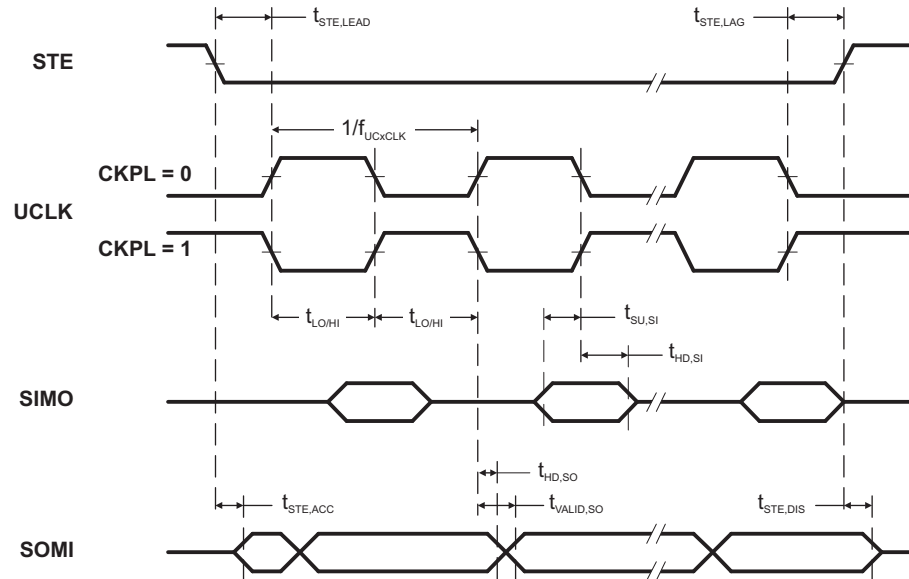
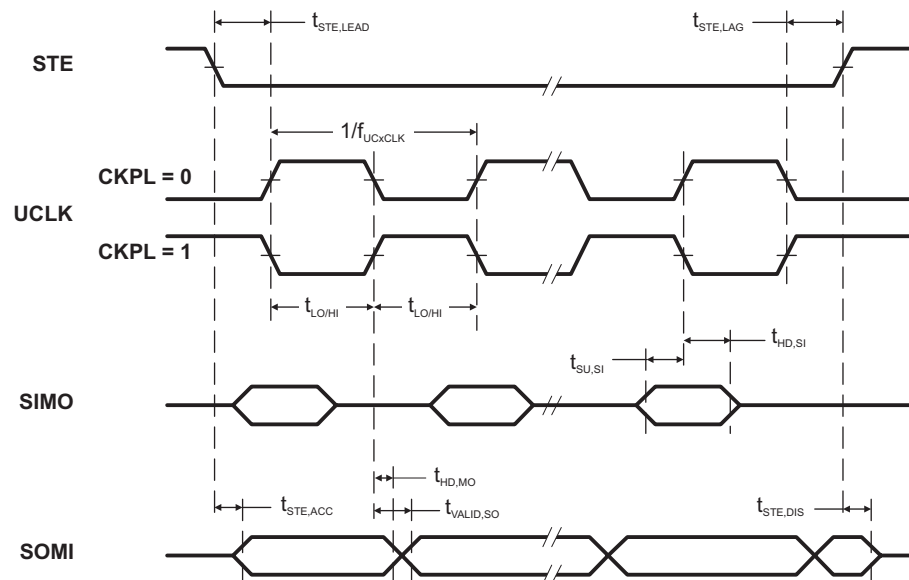

Figure 5-16. SPI Slave Mode, CKPH = 0
Figure 5-17. SPI Slave Mode, CKPH = 1
(see Figure 5-16 and Figure 5-17)
(2) Specifies the time to drive the next valid data to the SOMI output after the output changing UCLK clock edge. See the timing diagrams in Figure 5-16 and Figure 5-17.
(3) Specifies how long data on the SOMI output is valid after the output changing UCLK clock edge. See the timing diagrams in Figure 5-16 and Figure 5-17.